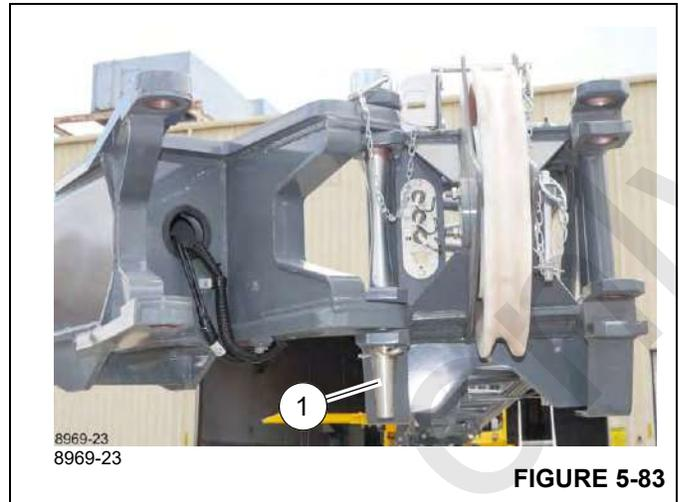

**FIGURE 5-81**
7. In the ODM, verify that the front and rear mounting pins are securely installed (Figure 5-81). Visually confirm that the pins are installed.